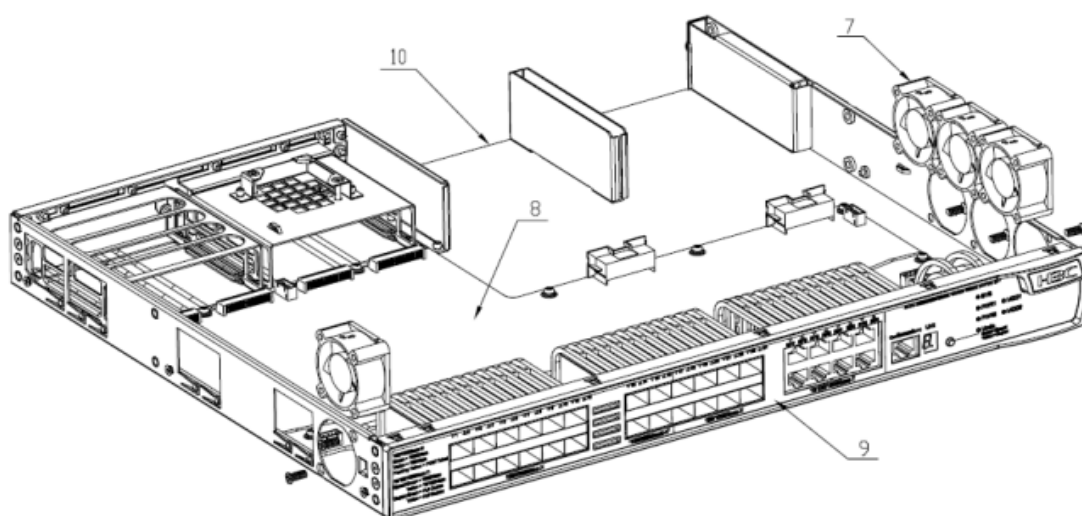

Figure 4 Treatments to the product (remove cover)
6. Unscrew the screws on cover 6, and then remove cover 6 according to figure 4.